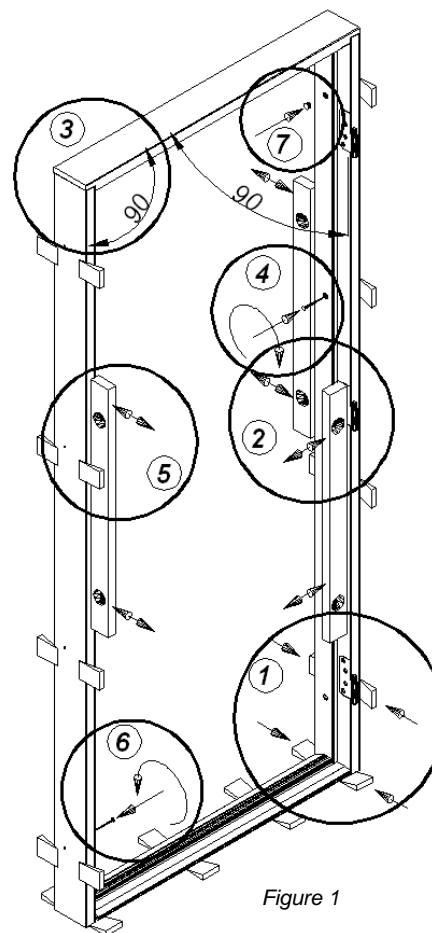

Figure 1
4. (See Figure 1) Lift the frame into the aperture and fix it with wedges. Place the wedges near the fastening screws (pos. 1).
5. Use a spirit level to ensure that the frame is level (pos. 2) and the corners are right-angled (pos. 3). Make adjustments with the wedges if necessary.
6. Screw the vertical frame side with the hinges tightly into the wall (pos. 4).
7. Install the door leaf and use it to make sure that the opposite frame side is straight (pos. 5). Ensure that the passage gap between the door leaf and the frame is equal along the door perimeter. When the frame position is correct, the door is opened and closed without any problems. You can then screw the opposite frame side to the wall tightly as well (pos. 6).